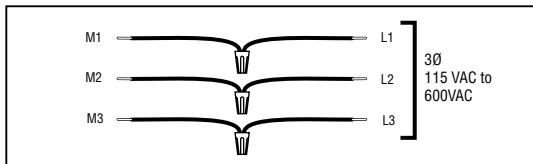

Figure 3
2. Connect the previously identified power wire L1 to motor wire M1. Repeat the connections for L2 to M2 and L3 to M3. See Figure 3.